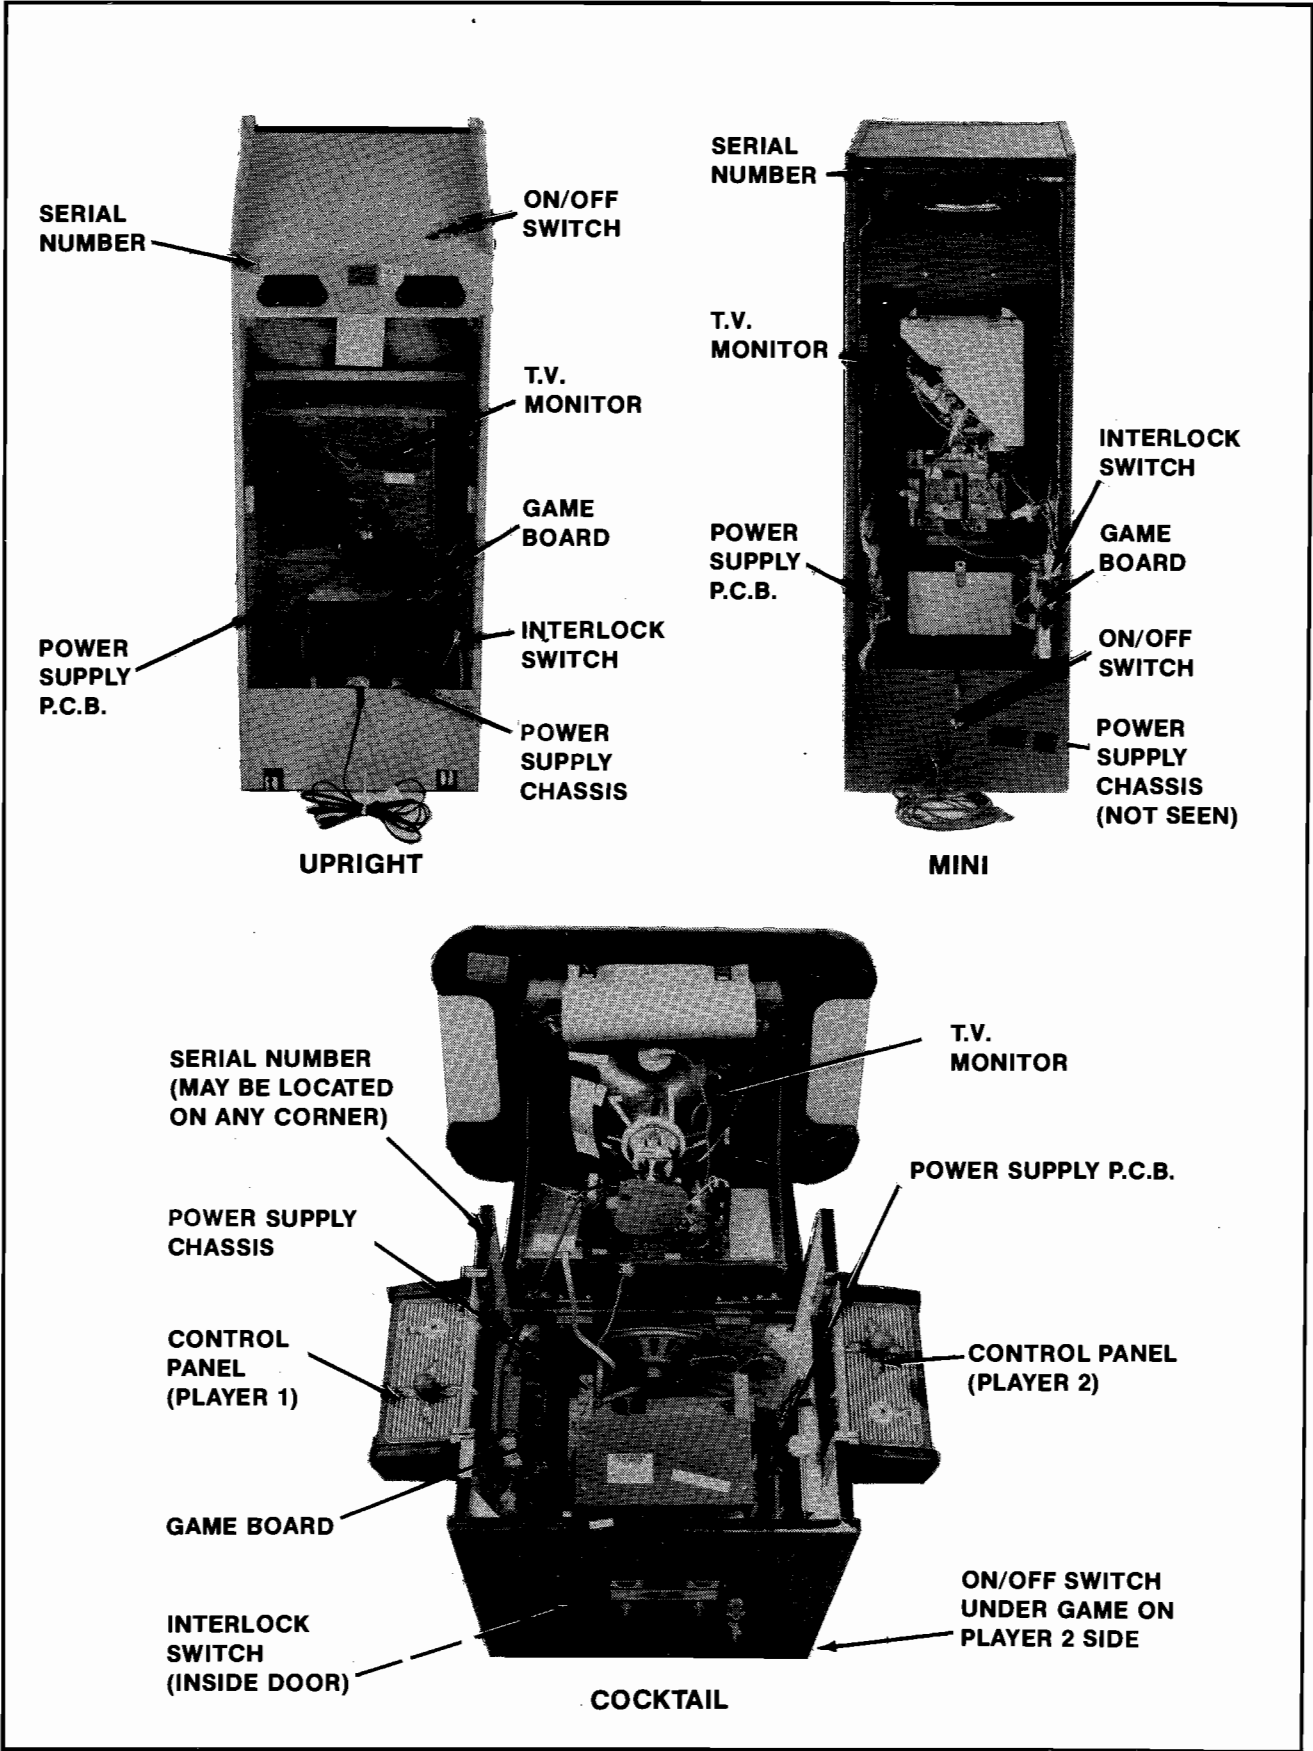

Figure 1-1 Location of Serial No., Interlock Switch, On/Off Switch, and Major Sub-Assemblies
5. Open the cabinet and inspect the inside of the game for any signs of damage. See Figure 1-1.
- Make sure all printed circuit boards (P.C.B.'s) are firmly seated in their connectors. See Figure 1-1. These connectors are also keyed. The P.C.B.'s will only go into them one way without being damaged.
- Note the location of the game's serial number. See Figure 1-1.
- Check all major subassemblies to be sure they are mounted securely. These are called out in Figures 1-1 & 1-2.
## 3. Interlock and power ON/OFF switches. See Figure 1-1.
The game ON/OFF switches for all models are located as shown in Figure 1-1. Turn the game on and allow it to warm up a few minutes.